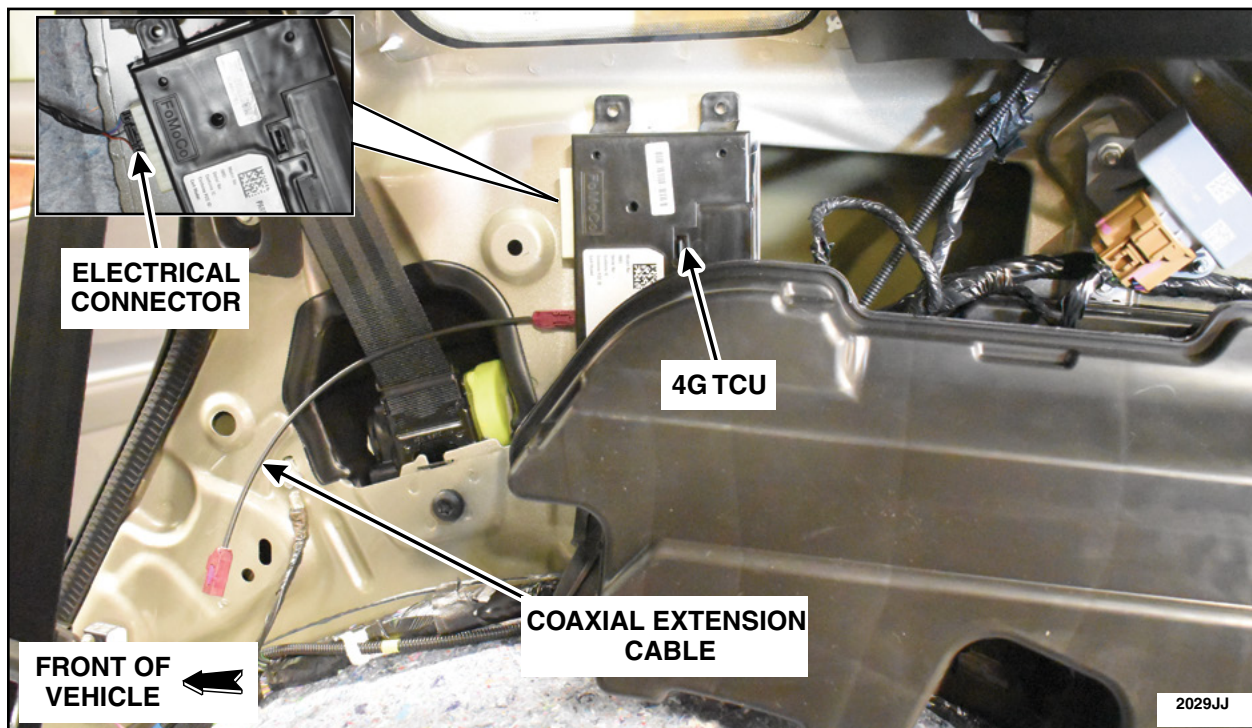

FIGURE 9
10. Install the 4G TCU. See Figure 9.